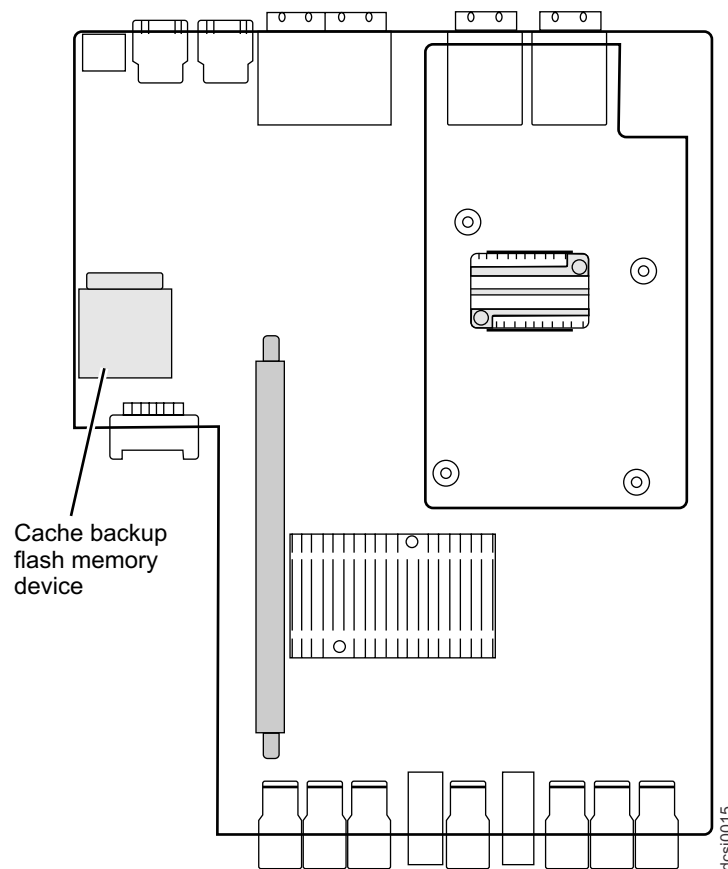

Figure 66. Cache backup flash memory device location
12. Remove the cache backup flash memory device from the controller and install in the new controller. Figure 66 shows the location of the of the cache backup flash memory device on controller board.